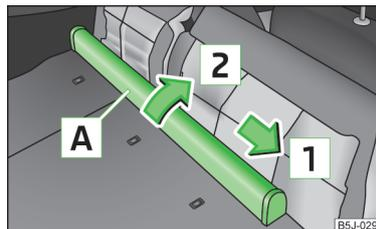

Fig. 72 Rear seats: Net partition housing
- › Push the net partition housing **A** » Fig. 72 in the direction of the arrow **1** and remove it from the mount on the right seat back in the direction of the arrow **2**.